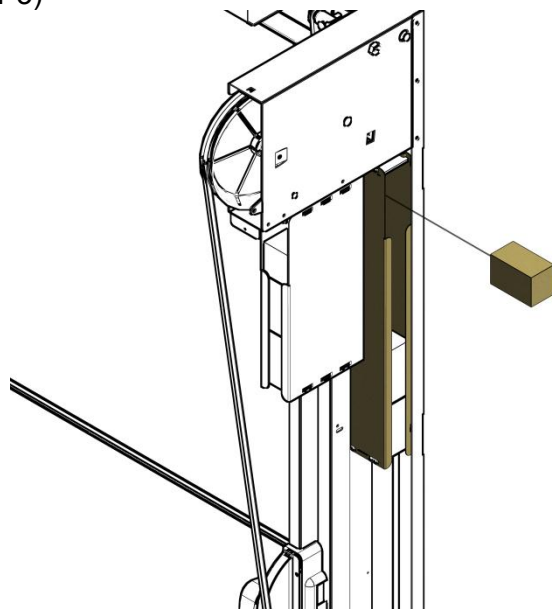

Figure 4-2 Right side only shown
1. If the upper section in open position tends to drop: with door closed, add weight units symmetrically to left and right narrow counterbalance boxes (Figure 4-2)
2. If the upper section opens too fast: with door closed, remove weight units symmetrically to left and right narrow counterbalance boxes (Figure 4-2)